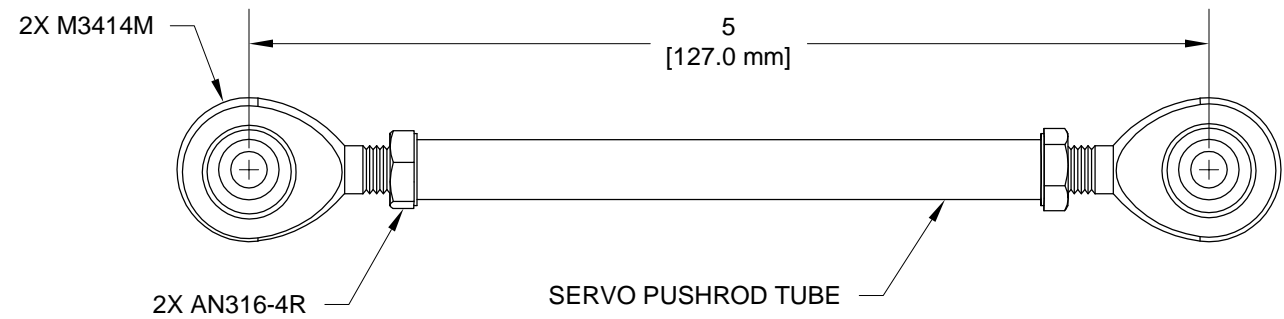

FIGURE 3: ROLL SERVO PUSHROD ASSEMBLY
Step 3: Assemble the CS-00019 Roll Servo Pushrod Assembly as shown in Figure 3. Tighten the two nuts to 14-20 in.-lb.